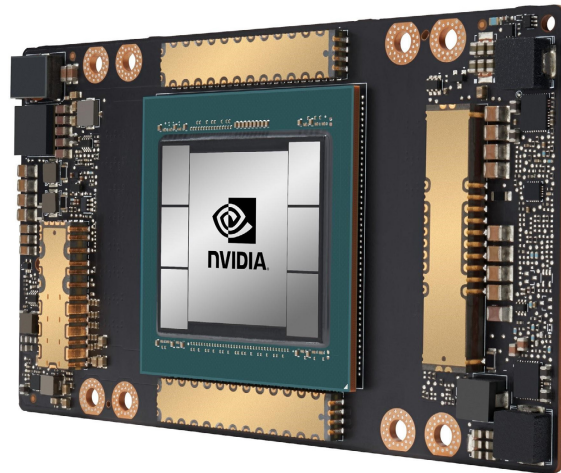

Figure 2. NVIDIA A100 Tensor Core GPU
At the core, the NVIDIA DGX A100 system leverages the NVIDIA A100 GPU (Figure 2), designed to efficiently accelerate large complex AI workloads as well as several small workloads, including enhancements and new features for increased performance over the NVIDIA V100 GPU. The A100 GPU incorporates 40 gigabytes (GB) of high-bandwidth HBM2 memory, larger and faster caches, and is designed to reduce AI and HPC software and programming complexity.